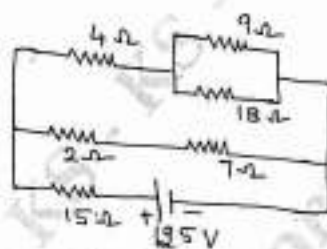

Fig.Q1(c)
- c. Find : i) Current in  $15\Omega$  resistor ii) Voltage across  $18\Omega$  resistor iii) Power dissipated in  $7\Omega$  resistor as shown in circuit diagram. Fig.Q1(c).